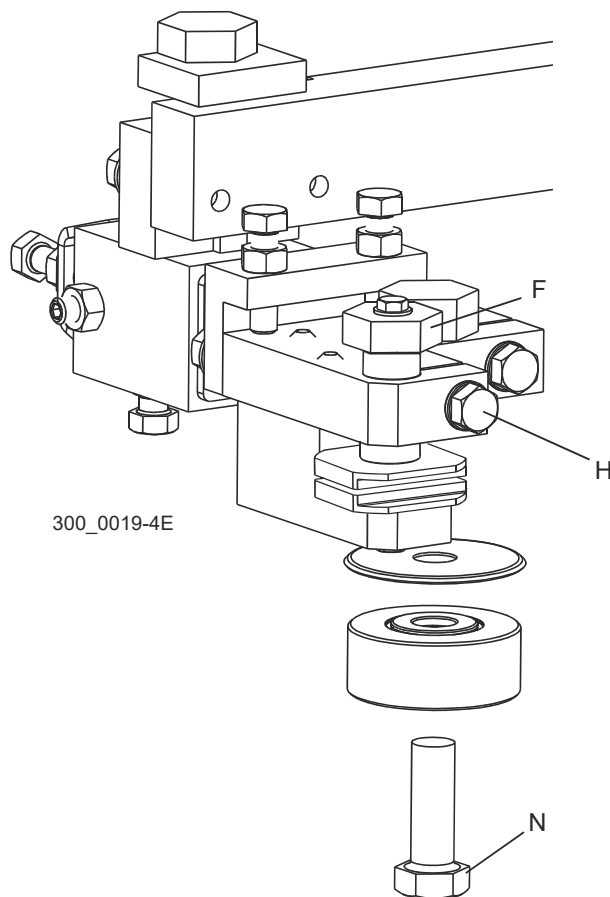

FIG. 7-28
See Figure 7-28. At both blade guide assemblies, loosen clamp bolt (H) and turn bolt (F) counterclockwise to raise the top guide block all the way up. Remove bolt (N) and remove